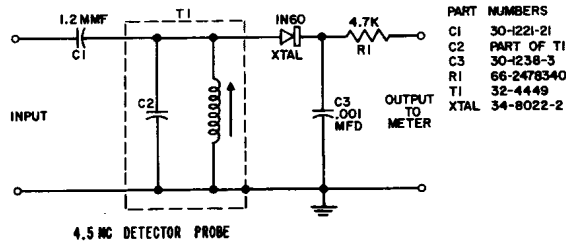

Figure 1. 4.5 mc Detector Tube
- (1) Inject 4.5 MC AM signal into L43 or use station signal.
- (2) Connect 4.5 MC detector (see circuit, figure 1) to L26 (pin 7 of CRT).